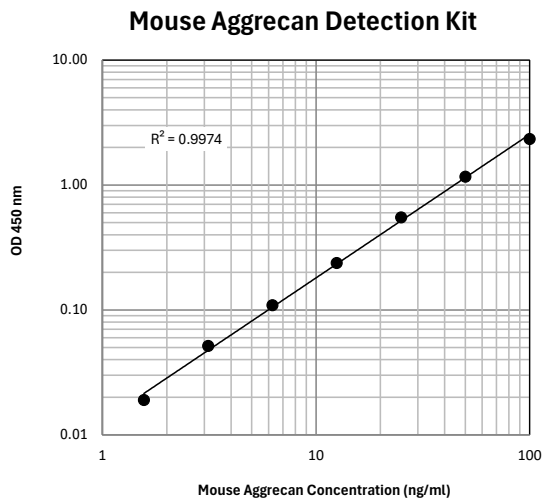

Figure 1 - A Typical Standard Curve for the Mouse Aggrecan Detection ELISA Kit
1. Average the duplicate OD values for the standards, blanks (B), and test samples.
3. Plot the OD values of the standards against the ng/ml of mouse aggrecan standard. Using a log/log plot will linearize the data. Figure 1 shows an example of a standard curve where the standard range is 1.6 to 100 ng/ml.